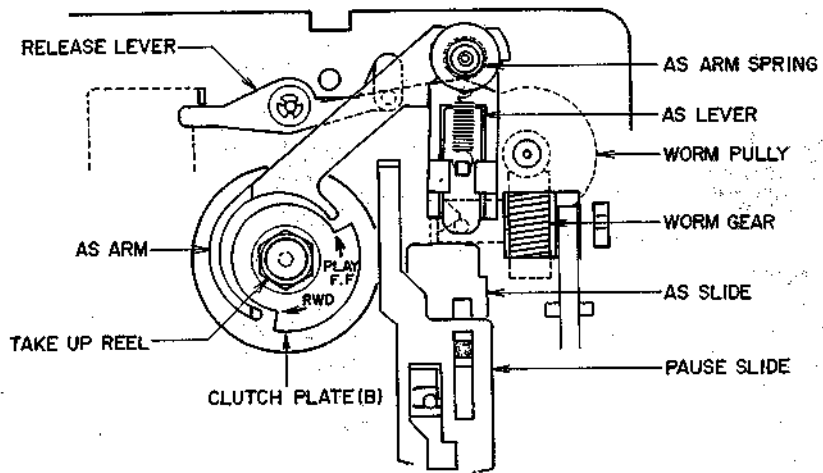

Fig. 14
a. CLUTCH PLATE (B) (Fig. 14)
b. AS LEVER (Figs. 14, 16)
c. RELEASE LEVER (Fig. 14)